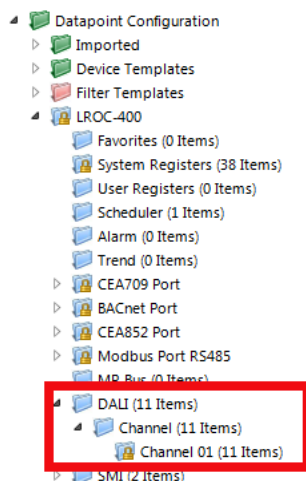

Figure 206: Data Point Manager with DALI device folders.
- The folder list (Figure 206),